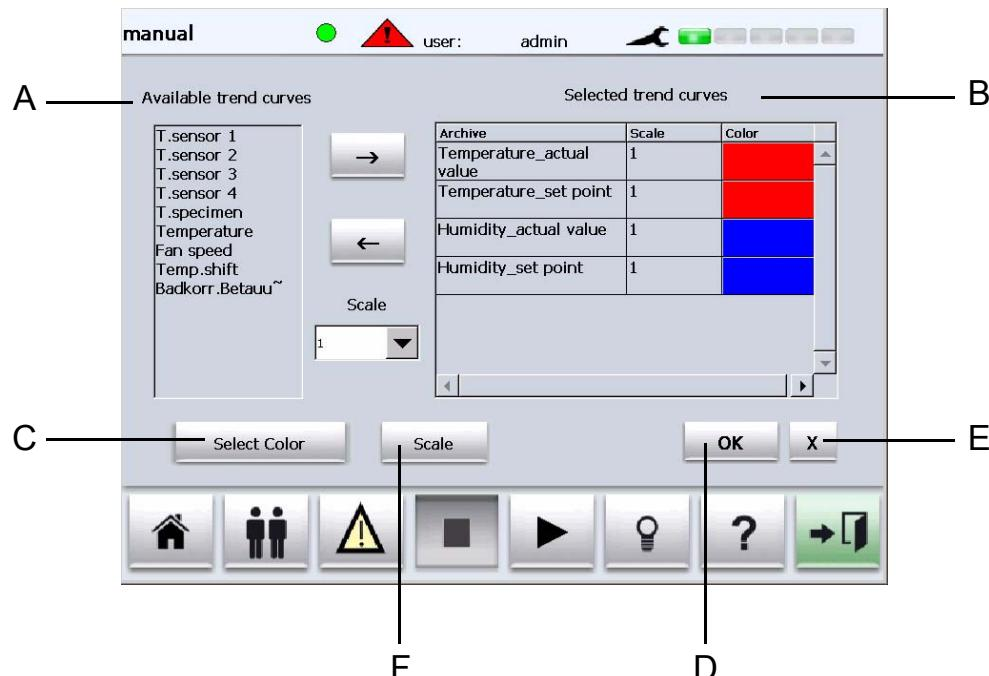

Fig. 2-8
- refer to chapter 2.4.4 , Fig. 2-8 (page 11)